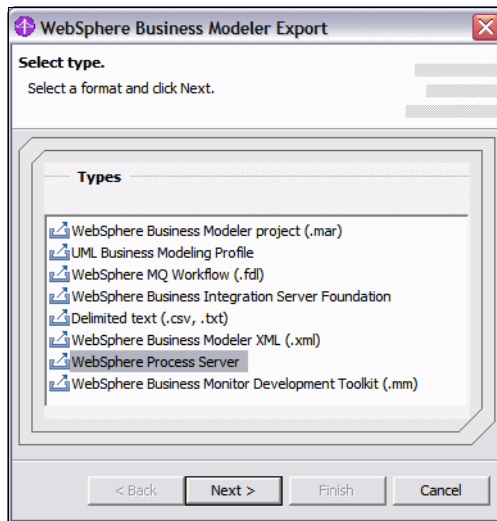

Figure 7-37 WebSphere Process Server export
- ▶ Then, select the type of export as *WebSphere Process Server* export (Figure 7-37).